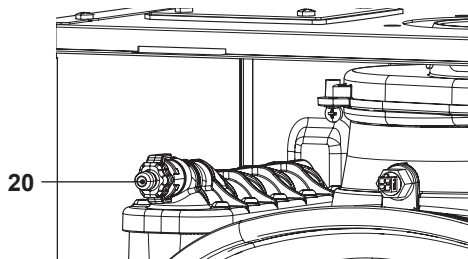

Fig. 7.3
- Before slackening the main condensing breather pipe exchanger 20 in Fig. 7.3 connect a small draining pipe to the hose nozzle to drain water out.